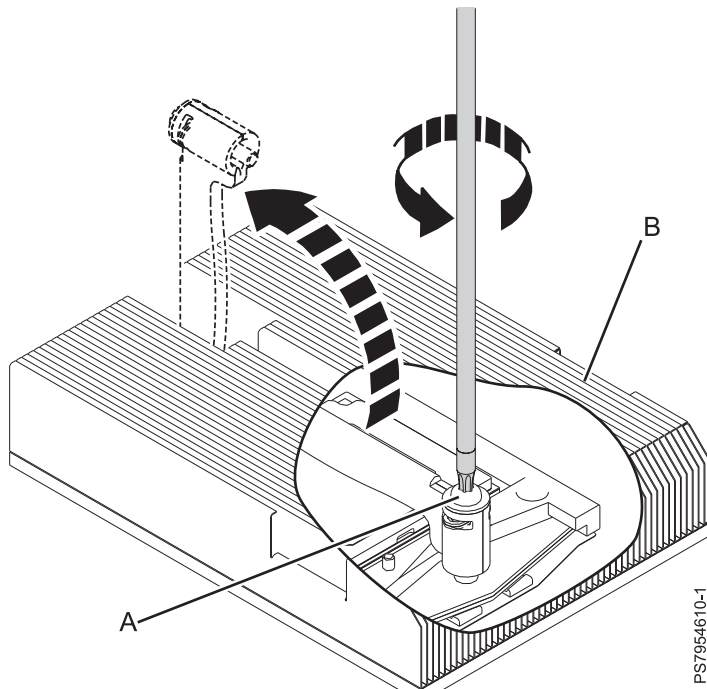

Figure 32. Loosening the heat-sink actuation screw
- a. Loosen the heat-sink actuation screw by turning the supplied nut driver counterclockwise **(A)**, as shown in Figure 32 on page 71. Loosen the screw until it moves freely.